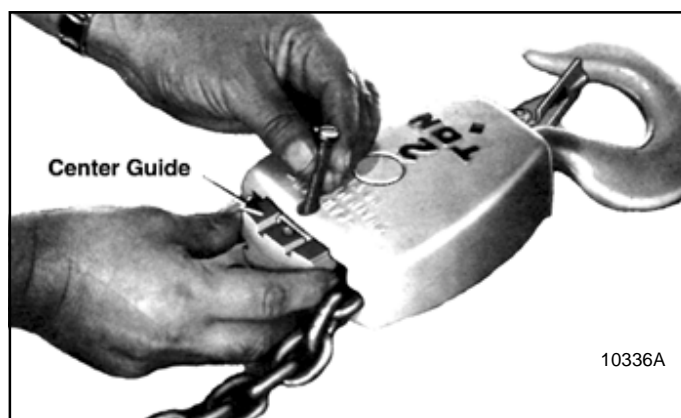

Figure 7-27. Removing Chain Center Guide from
(1) On 2-ton roller chain models, remove retaining ring from one end of sprocket pin and press pin from lower block body. Grasp chain and pull out sprocket and two spring washers from body. Do not remove needle bearing from sprocket or pressure lube fitting from sprocket pin unless replacement is necessary.
(2) On 2-ton link chain models, remove fillister head screw securing center guide in top of lower block body and lift out guide (fig. 7-27) and sprocket pin lock (fig. 7-28). Press sprocket pin from body and pull out chain, sprocket and washer (fig. 7-29). Do not remove bushing type bearing from sprocket or pressure lube fitting from sprocket pin unless replacement is necessary.